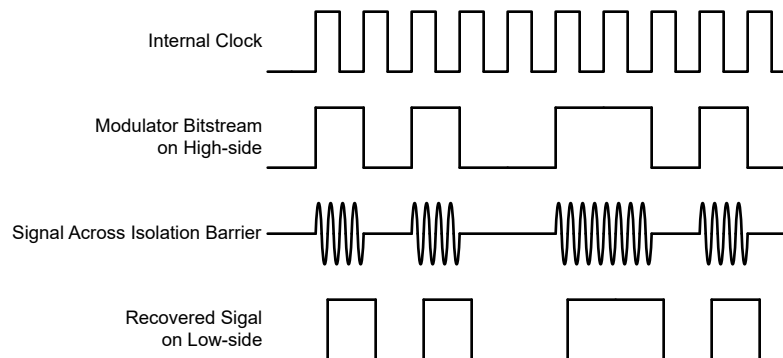

图 7-1. OOK-Based Modulation Scheme
The AMC1400 uses an on-off keying (OOK) modulation scheme, as shown in 图 7-1, to transmit the modulator output bitstream across the SiO₂-based isolation barrier. The transmit driver (TX) shown in the Functional Block Diagram transmits an internally-generated, high-frequency carrier across the isolation barrier to represent a digital *one* and does not send a signal to represent a digital *zero*. The nominal frequency of the carrier used inside the AMC1400 is 480 MHz.